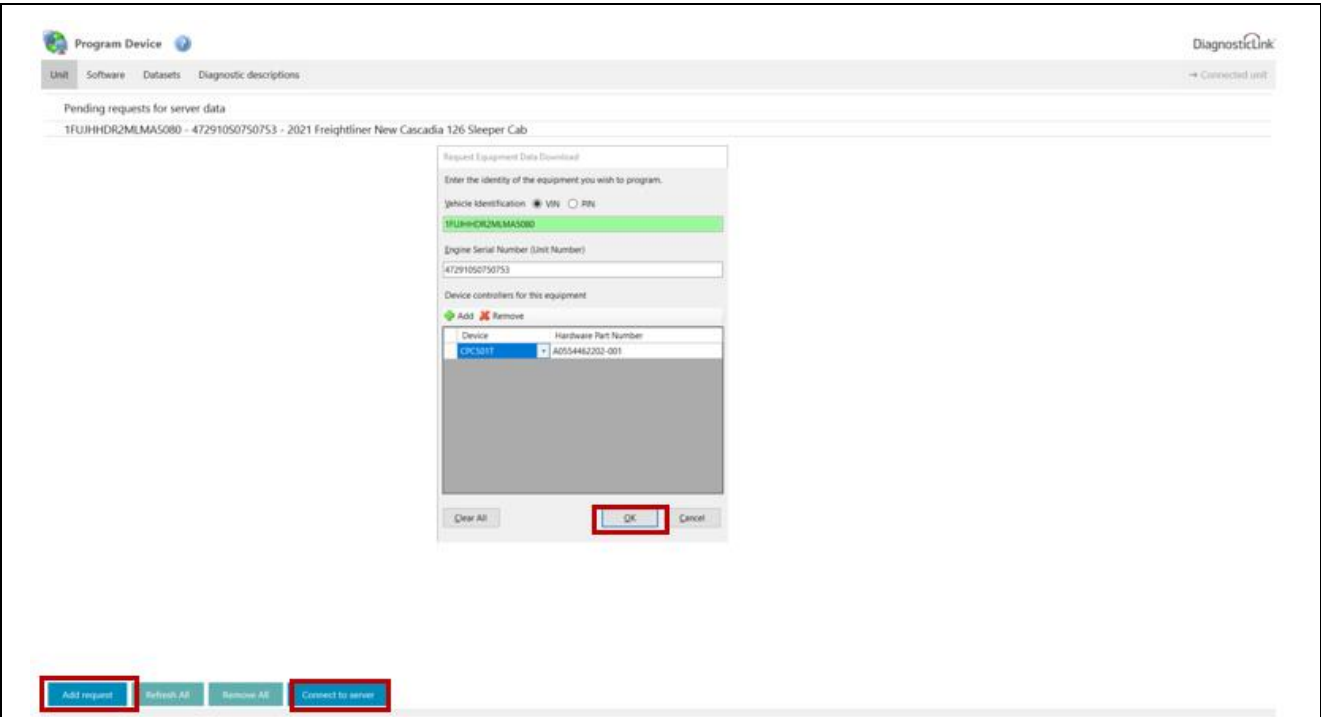

Figure 4: Adding Engine Serial Number and Connecting To Server
43. Select the 'Add' button in the lower left corner of the DiagnosticLink® screen and enter the engine serial number. Then click the 'Connect to Server' button in the bottom left corner of the DiagnosticLink® screen to download. Select 'Connected unit,' then select 'Next.' See **Figures 4, 5 and 6.**